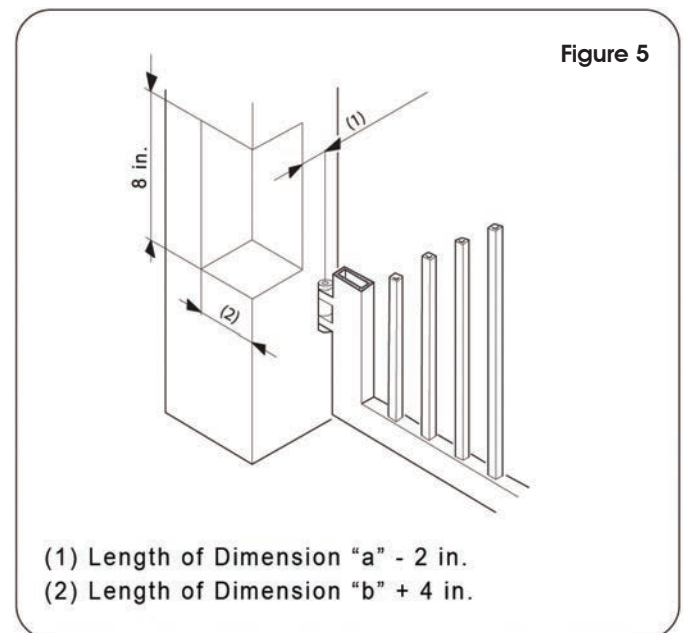

Figure 5
- If the pillar dimensions or the position of the hinge (dimension **d**) do not make it possible to keep dimension **a** at the required size, a niche must be made in the pillar as shown in Fig. 5.